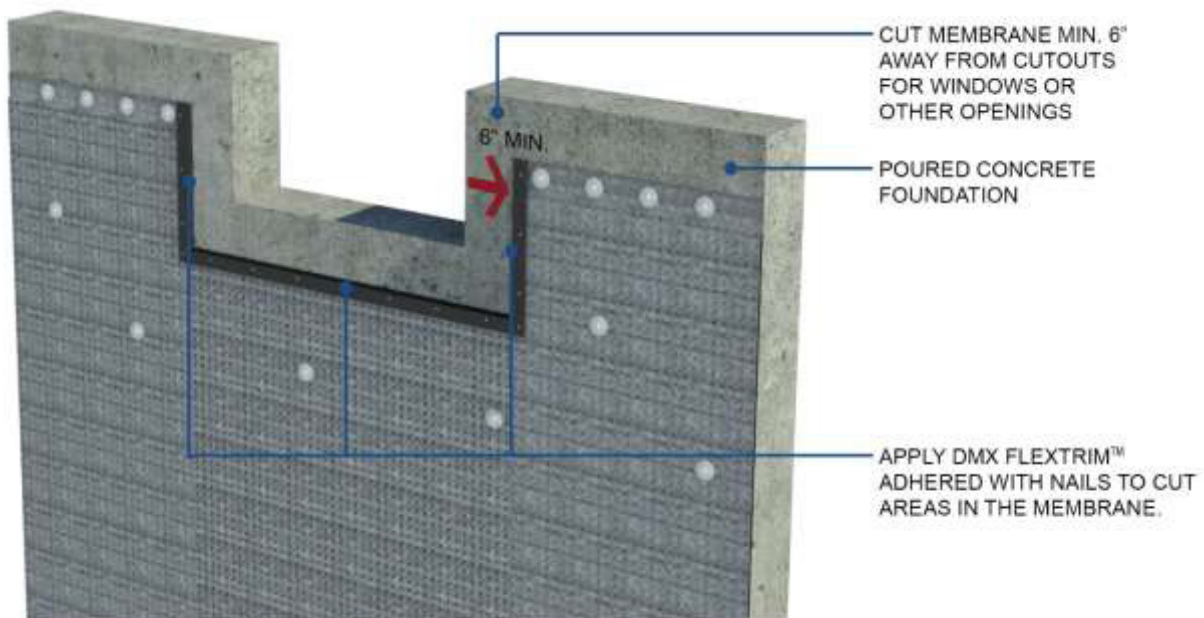

Figure 7 Around Foundation Openings
DMX Drain 5X™ is to be applied around areas that have been cut out of the foundation, for windows or other openings. The membrane is to be cut 6" (150mm) away from the perimeter of the cutout in the foundation. Where the membrane has been cut a bead of sealant is to be applied with DMX FlexTrim™ laid on top and fastened to the foundation using concrete nails. (Refer to Figure 7)
1. Snap a chalk line one (1) inch below grade level on the foundation wall.
3. Secure the membrane to the foundation wall with DMX Washers™ and 1 ½" deck or drywall screws. (It is best to use coated / corrosion resistant screws to help prevent from deterioration in the future.) Position the DMX Washers™ in the flat tab, 8 or 12 inches (200mm or 300mm) apart, secure in place with 1 ½" deck or drywall screws, by screwing into the plastic ties. See ICF Manufacturer specs for tie spacing. Install the DMX Washers™ in the dimpled section, in accordance with the diagram, below the tab with the washers spaced 16 or 24 inches (400mm or 600mm) apart. (Refer to Figure 7)
Make sure the membrane is being cut in line with the ICF ties/webs. a bead of sealant is to be applied with DMX FlexTrim™ laid on top and fastened to the ICF tie/webs using deck or drywall screws. See manufacturer of ICF for block specs and tie/web spacing. (Refer to Figure 7)